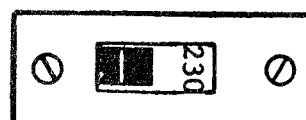

Figure 2-1. 115/230 VAC Switch
3. Locate slide switch on power supply board, which switches unit for operation on either 115 or 230 volts AC. See Figure 2-1.